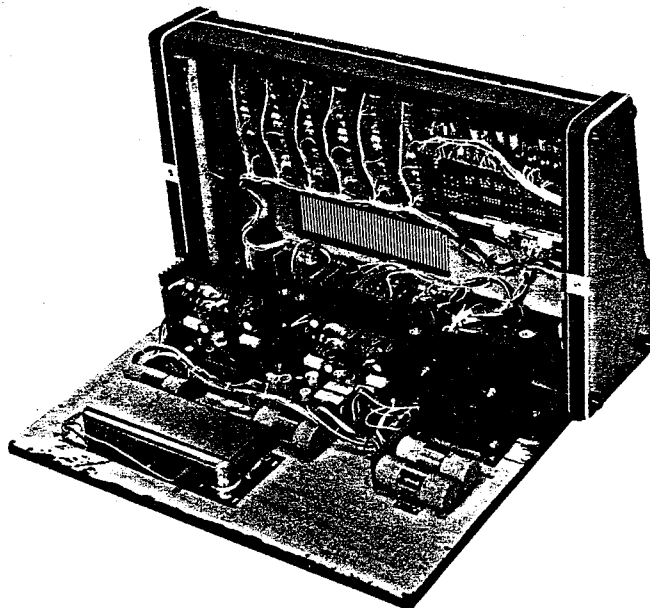

Figure 2
2. Reset the unit in its normal position and lift up the top case, as shown in Figure 2.